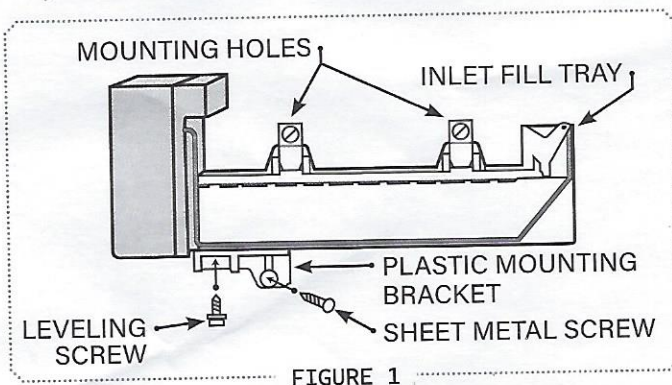

FIGURE 1
1. Remove defective ice maker from the freezer. Unplug Harness, check existing harness to this kit to make sure you have the correct wiring harness. The Ice maker may have two upper screws and one lower mounting screw or two mounting clips with one lower mounting screw. If you do not have the correct harness, you will need a different ice maker kit. Please contact your dealer for the correct ice maker. See Figure 1